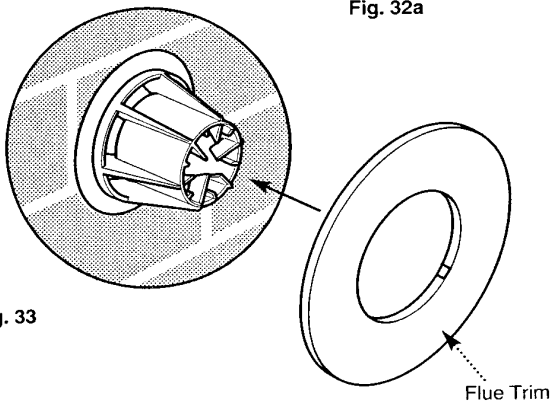

Fig. 33
4. The flue trim provided may be fitted if required, to neaten the make-up around the terminal (Fig. 33).